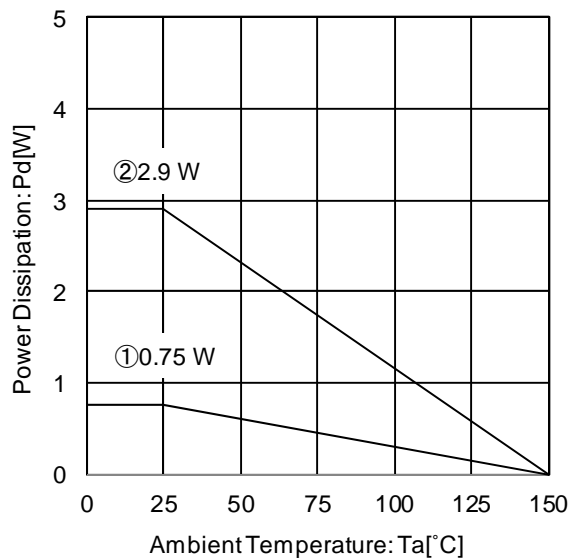

Figure 25. Package Data
Refer to the heat mitigation characteristics illustrated in Figure 25 to Figure 28 when using the IC in an environment of  $T_a \geq 25^\circ\text{C}$ . The characteristics of the IC are greatly influenced by the operating temperature, and it is necessary to operate under the maximum junction temperature  $T_{\text{max}}$ .
At  $T_a = 125^\circ\text{C}$  with Figure 25 ② condition, the calculation shows that ca 56.4mA of output current is possible at 10.2V potential difference across input and output.
At  $T_a = 125^\circ\text{C}$  with Figure 25 ② condition, the calculation shows that ca 67.7mA of output current is possible at 8.5V potential difference across input and output.